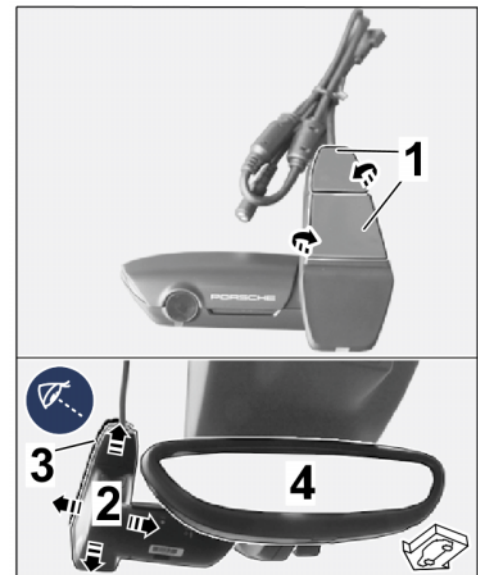

Figure 10
2.2.4 Pull protective film off the front camera retainer plate (⇒ *Figure 10-Top*).
Align front camera with retainer plate symmetrically with respect to the 3M privacy film (⇒ *Figure 10-Bottom*).